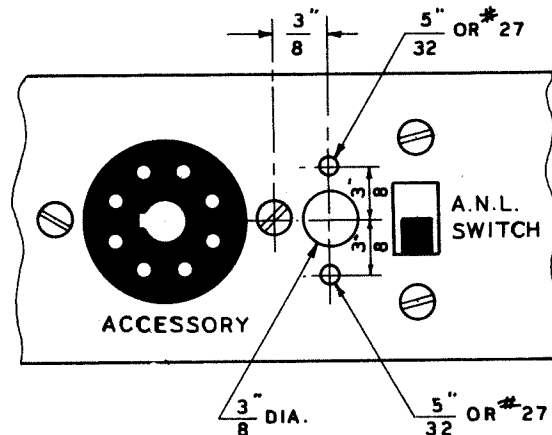

Figure 6
- (✓) Remove the chassis from the cabinet and locate the A. N. L. switch and accessory socket on the rear apron of the chassis. Mount the phono socket between these two. Refer to Figure 6.
- (✓) Refer to Page 11, Pictorial 3 in the AR-3 manual. Connect one lead of the 10 megohm resistor to CC4 (S).
Supplied with the CA-1 are two resistors, a 1 megohm (brown-black-green) and a 10 megohm (brown-black-blue). Just one of these resistors will be needed, depending on the AVC bias voltage developed in the particular receiver to be used. To determine what the AVC bias voltage is, tune the receiver to a signal (preferably a Conelrad key broadcast station which you intend to monitor). Now refer to Figure 6 and you will note that it is common practice to provide a high value of resistance between the detector and the first stage supplied with AVC voltage. This resistor prevents loading of the detector circuit and is marked isolation resistor on the schematic. Also on the schematic there is a point marked (A) which is the point to measure the AVC bias.
For those sets where the phono socket is mounted to the chassis connect one end of the resistor selected to the center conductor of the phono socket and solder. Connect the other end to the AVC line (point "A" in Figure 6) and solder.